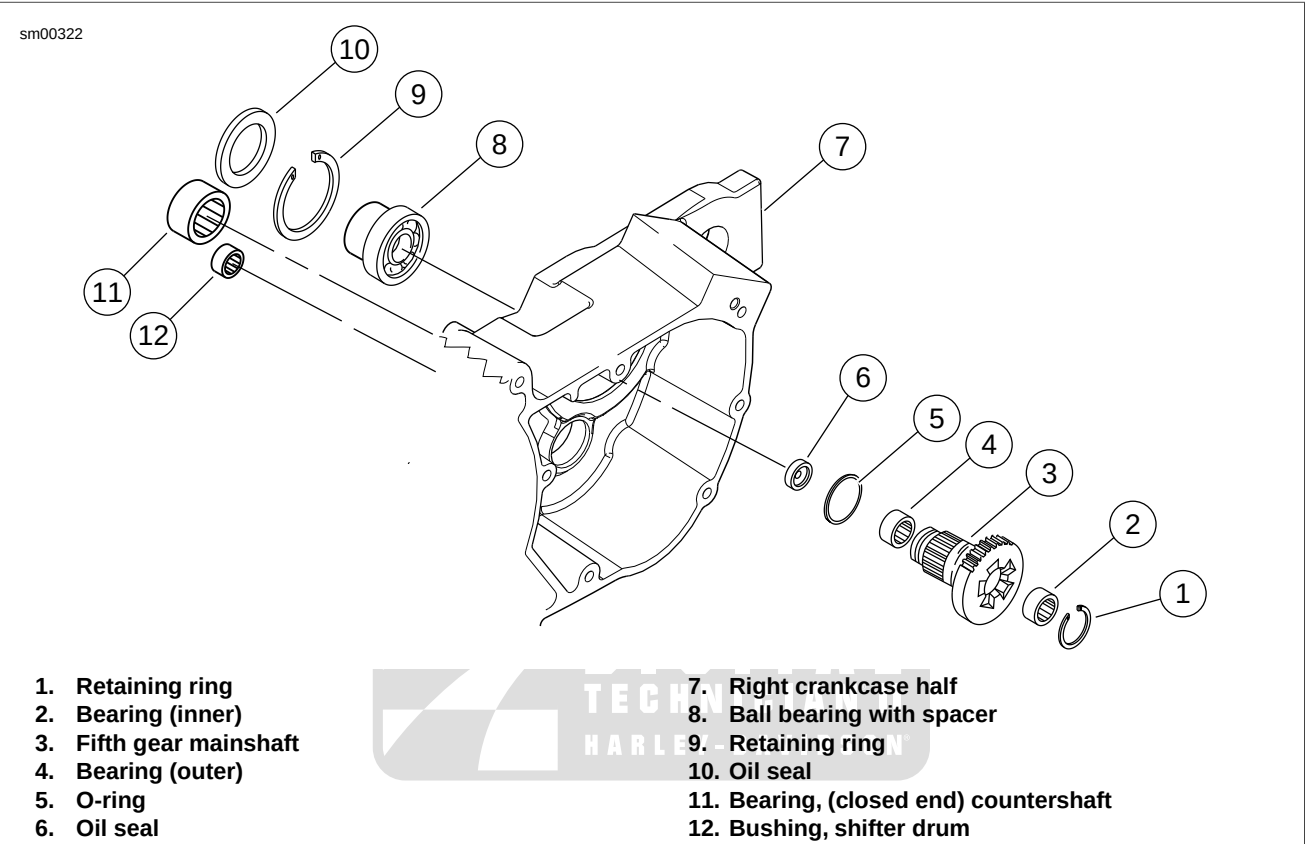

Figure 6-66. Transmission Assembly - Right Crankcase Half
See Figure 6-66 When removing the main drive gear (3), the gear is pressed out against the resistance of the ball bearing
1. See Figure 6-66. At outside of case remove and discard oil seal (10). Remove and discard main drive gear bearing retaining ring (9).
6. See Figure 6-66. At outside of case install **new** beveled retaining ring (9) in groove inside bearing bore with beveled side facing outside of case.